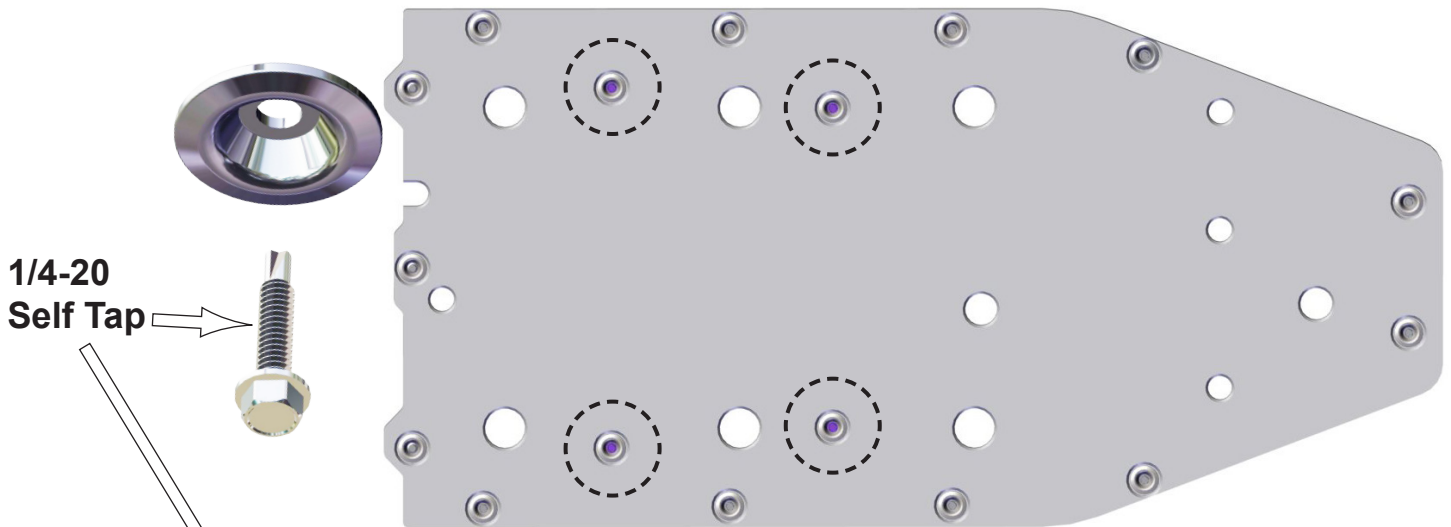

Fig.11a
11. Before we drill the remaining locations, you can now **Install Four (4) 1/4-20 Self Tap Screws** in four locations of **Plate #5** to hold it in place. These already have a small holes there and will accept the Self Tap Screws. See **Fig.11a-b**. Once these are in place, you are now ready to start drilling the remaining hole locations.